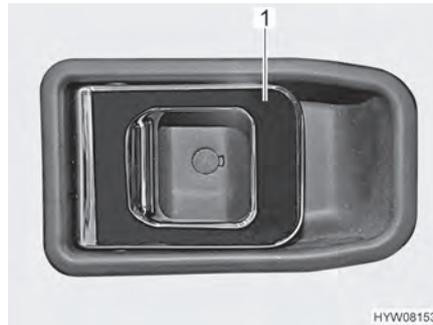

Fig. 34 Door lock (driver's door, inside)
- Opening:* ■ Pull on the handle (Fig. 34,1). The door lock is unlatched or opened.
- Locking:* ■ Push the handle (Fig. 34,1). The door lock is locked.